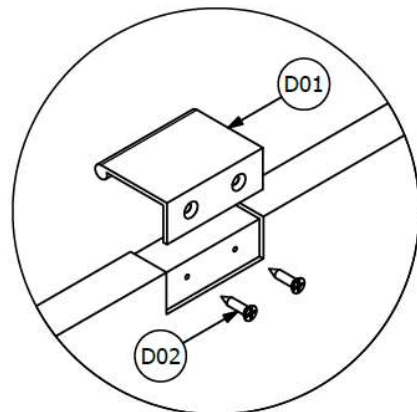

FIG. 05:
1. Using Wood Screw D02, attach Pulls (D01) to Drawer Fronts. See Figure 05.